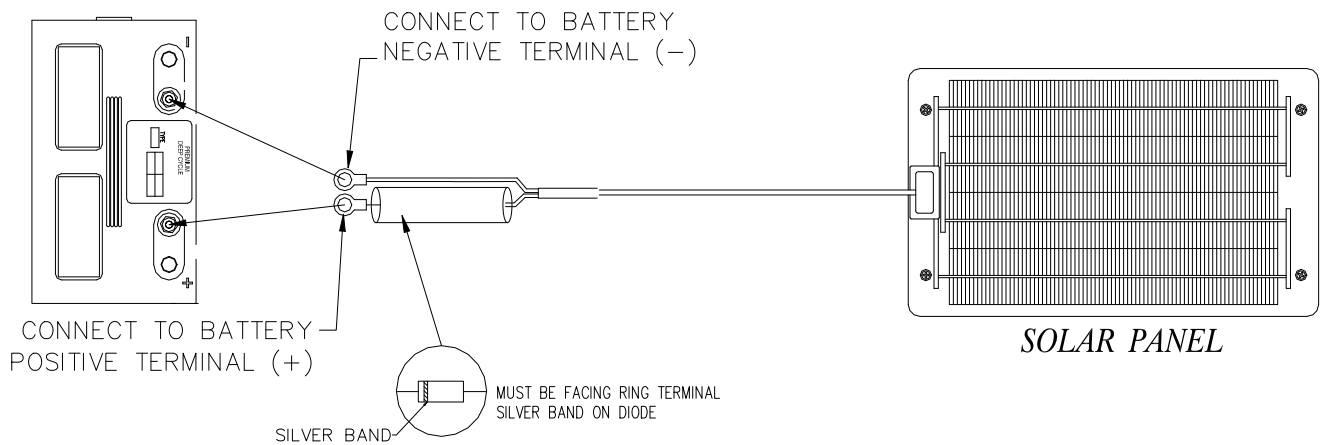

Figure 2-1
1. Refer to figure 2-1. Attach the white solar panel lead to the positive battery terminal, and the black lead to the negative terminal. Tighten each wing nut with a pair of pliers, as even a slightly loose connection can cause the battery terminals to heat up. Keep battery terminals clean with a corrosion protective coating.